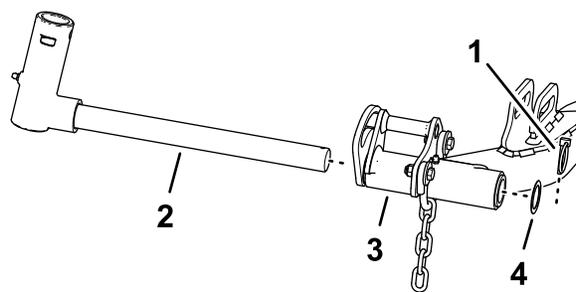

**Figure 16**
1. Slide a cutting unit under the lift arm (Figure 16).